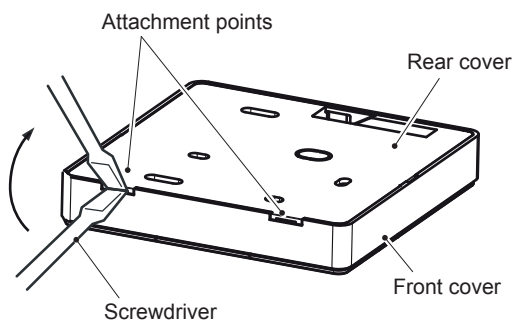

Fig. 5.1
1. Use a flat tip screwdriver to release the retainers and remove the rear cover from the box. Turn the screwdriver as indicated in figure 5.1 in order not to damage the cover.